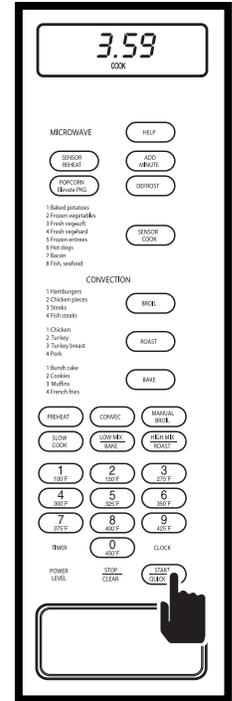

Figure 3-32.
3. Press QUICK ON/START key to begin cooking at power level chosen. The oven will energize and display will show the time as it counts down. (See Figure 3-32) At the end of the cooking time, "END" will flash on the display and alarm will beep.